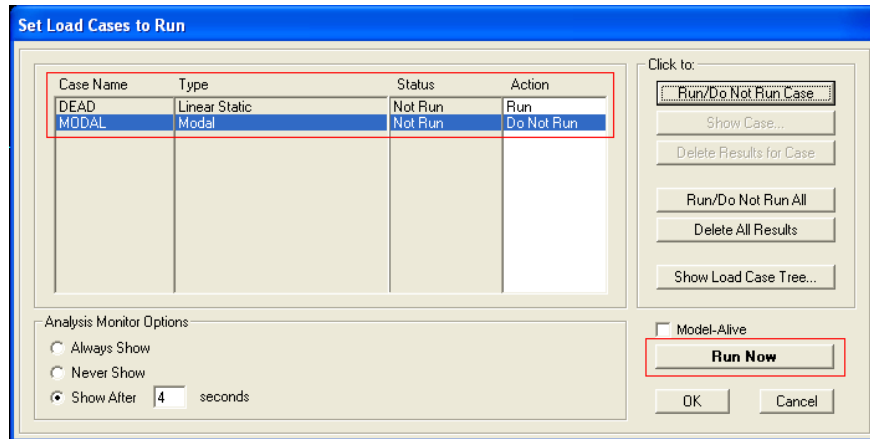

Figure 10
b) Run Analysis: Under the **Analyze menu** choose **Run Analysis**. For the case name **Modal** click **Run/Do not Run Case** to prevent modal analysis (modal analysis is not required). Press **Run Now** (Fig 10). You will be asked a file name where the results of the analysis will be saved. (Opening a new folder to save all the output files is recommended.) After you see Analysis done window, click **OK**.